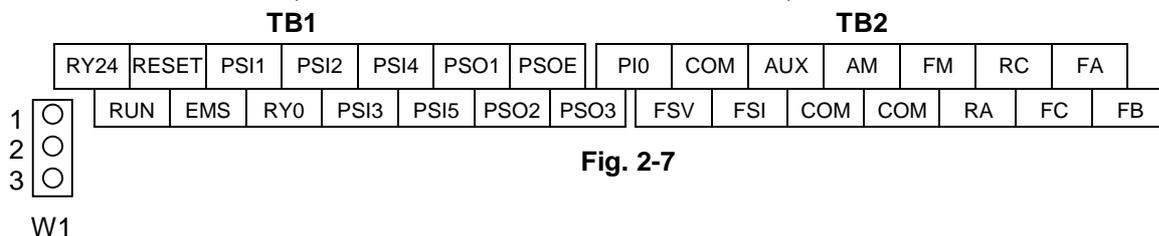

Fig. 2-7
- 9) The layout of the control circuit terminal block is shown in Fig. 2-7; functions are in Table 5-1. Terminals with the same terminal symbol are internally connected.